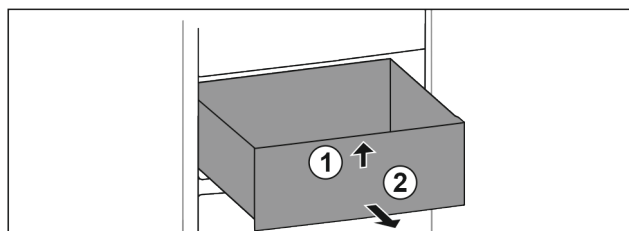

Fig. 95
- Lift up drawer at the front. *Fig. 95 (1)*
- Remove drawer to the front. *Fig. 95 (2)*